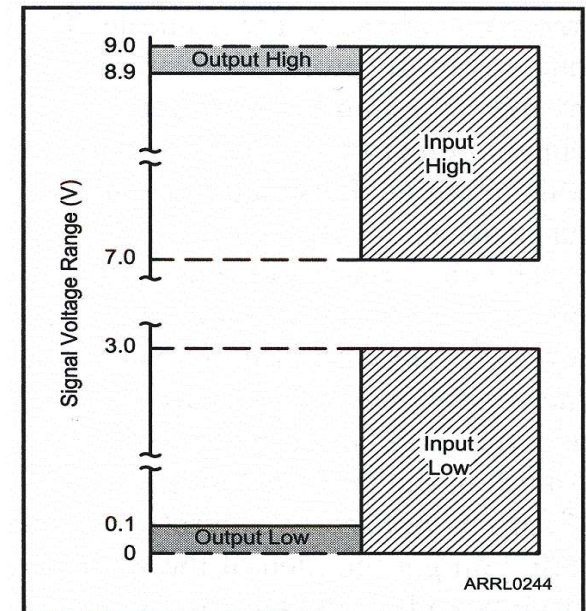

Figure 5.44 — This diagram shows 4000-series CMOS-device input and output signal-voltage ranges with a 9-V supply.
- **Fig 5.44 shows The wide range of input voltages gives the CMOS family great immunity to noise, [E6C06]** since noise spikes will generally not cause a transition in the input state.